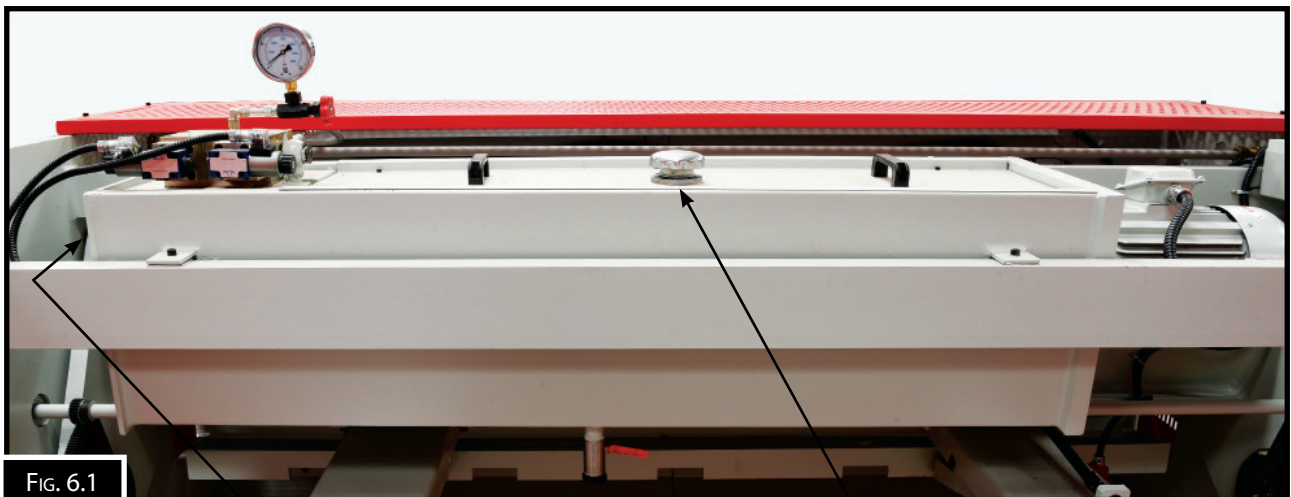

FIG. 6.1
2. After removing the dust and dirt from the top of the tank, remove the socket head cap screws that secure the tank top cover and remove the cover or covers. (Fig 6.1)